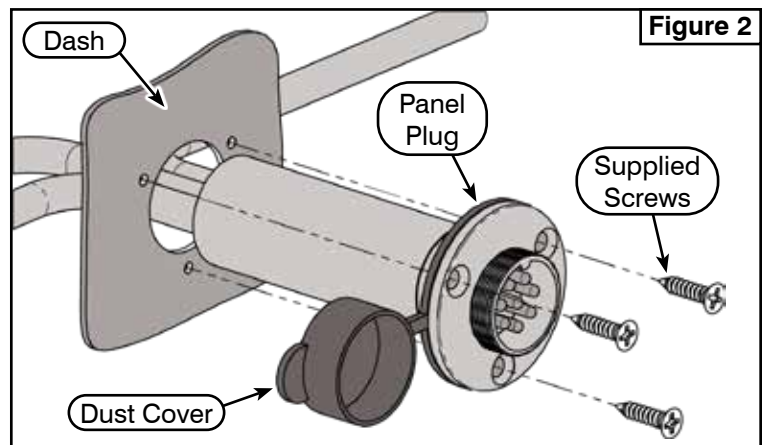

Figure 2
2. Splice the end of the red wire from the **Hand Remote Harness (2)** into a power source that is controlled by the ignition (Keyed Power). Use a test light to identify a wire that receives power only when the key is in the ON position.
3. Connect the green and black wires on the **Hand Remote Harness (2)** to the green and black wires on the winch contactor. Then, connect the white wire to the negative (-) post on the contactor.
4. Connect the Brown and Yellow wires from the **Hand Remote Harness (2)** to the **Main Actuator Harness (3A)**:
5. Connect the Purple and Orange wires from the **Hand Remote Harness (2)** to the **Main Actuator Harness (3B)**:
6. Choose a suitable location to mount the 8-pin panel plug on the **Hand Remote Harness (2)**. Ideally, place it under the dash on a flat surface, but feel free to mount it wherever is most convenient. Once you've selected the spot, drill a **3/4" (19mm) hole**. If necessary, the hole may need to be enlarged so the panel plug fits snugly. Secure the plug using the supplied screws, **being careful not to overtighten them**. Refer to **Figures 2 and 3** for details.
8. When the **Hand Remote (1)** is not in use, always cover the panel plug on the **Hand Remote Harness (2)** with
the dust cover to keep it clean. Be sure to store the Hand Remote (1) in a safe location when not in use. See **Figure 2**.
10. See the manual included with the **Hand Remote (1)** for information on pre-programmed controls and button layout.